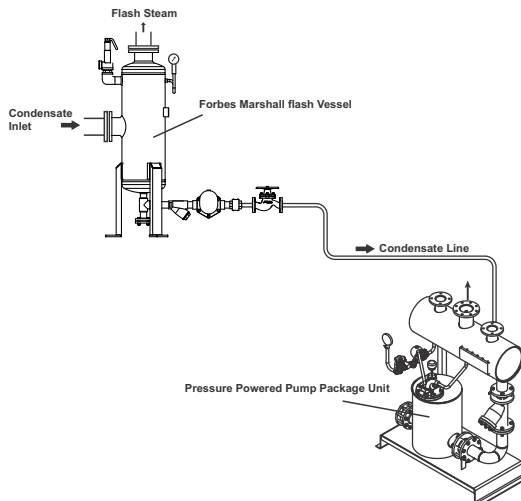

Figure 3: Installation of Forbes Marshall flash Vessel with PPPU
5. Installation Guidelines: (Refer to Figure 3)